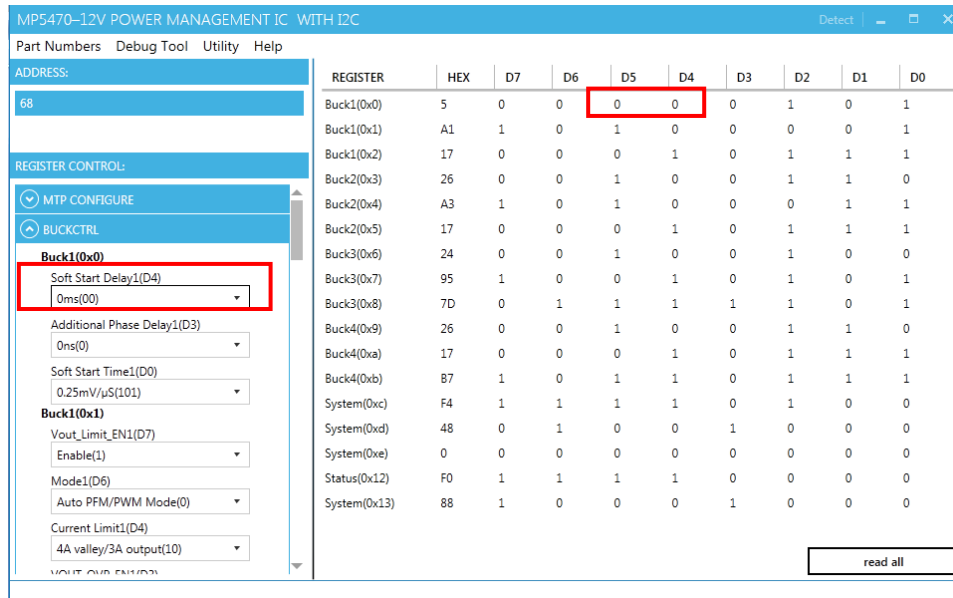

Figure 11: Refer to Datasheet to Translate 0's and 1's
- Find the item you want to change and select the desired value from the drop-down menu. The changed information of the item will appear on the right side (see Figure 11).